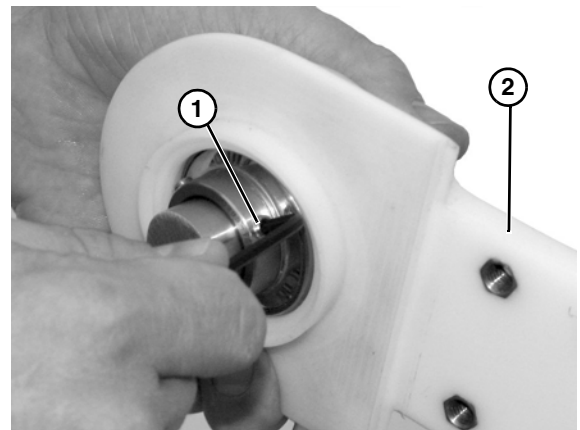

Figure 36
- Loosen set screws (Figure 36, item 1) and remove tail plate (Figure 36, item 2).